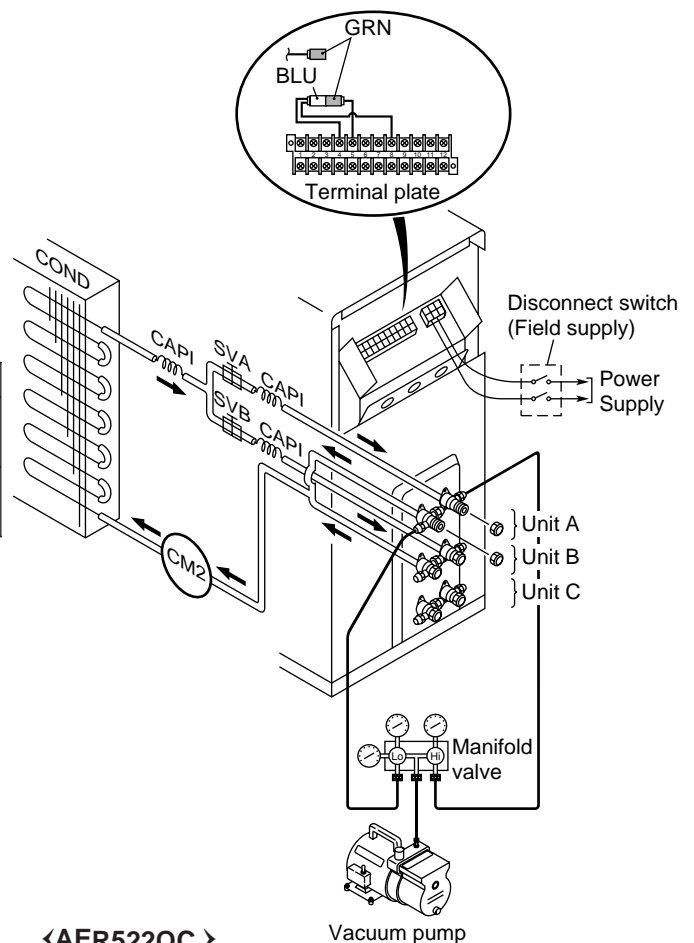

Fig.9-2
- 9-1-2. Provide a disconnect switch to the 3p terminal plate. (Figs.9-2 and 9-3)
- 9-1-3. Turn the disconnect switch ON to supply power (single-phase, 220-240 V) to the outdoor unit. This makes it possible to force open two solenoid valves (SVA and SVB) in the refrigeration circuit. (Figs.9-2 and 9-3)
- 9-4-2. Connect the vacuum pump and a manifold valve as shown in either Fig.9-2 , depending upon the model. Confirm that all connections are correctly made.
- 9-4-4. Check that the blue/green connector is properly attached. (Figs.9-2 )
- 9-4-5. Turn the disconnect switch ON (if it has been OFF) to open the two solenoid valves (SVA and SVB). (Figs.9-2 )